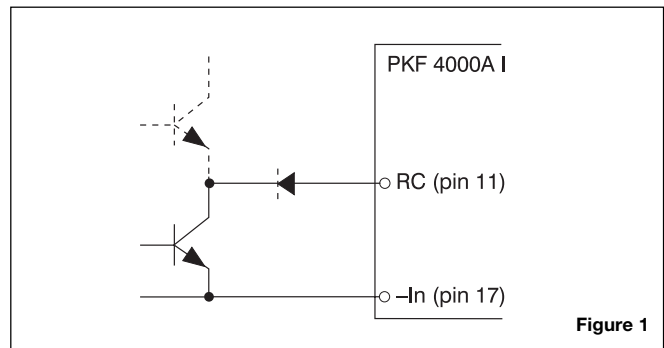

Figure 1
Turn-on or turn-off can be realized by using the RC-pin. If pin 11 is connected to pin 17 the power module turns off. Normal operation is achieved if pin 11 is open (NC). To ensure safe turn-off the voltage difference between pin 11 and 17 shall be less than 1.0V. RC is an open collector compatible input. A sink capacity of 1mA is needed. (see fig.1).